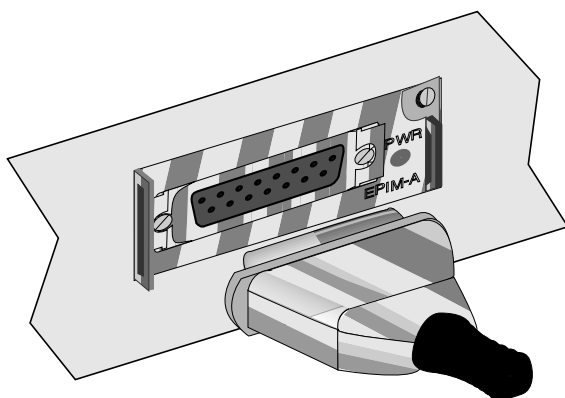

Figure 3-15. The EPIM-A
4. Connect the AUI cable to the AUI port located on the EPIM-A. (See Figure 3-15.)